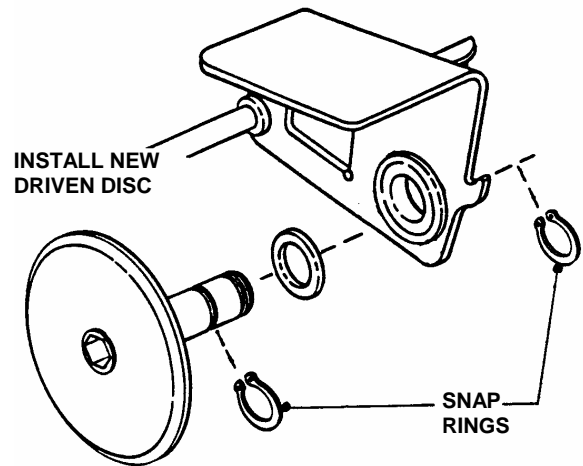

FIGURE 4.13
- Remove the two retaining rings which secure the rubber driven disc to the driven disc assembly. See Figure 4.13.
- Remove both snap rings that secure rubber driven disc hub to thrust plate. See Figure 4.13.